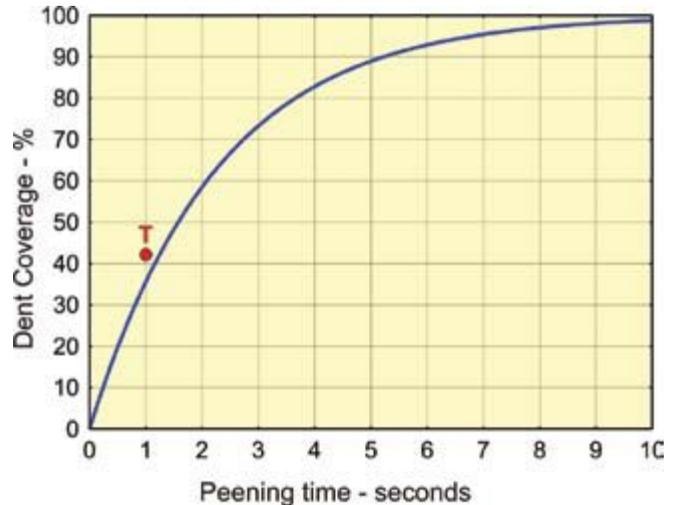

Fig.3. Theoretical average dent coverage curve for dents of 1 mm radius generated at a rate of 14 per 100 mm2 per second.
As an example, consider 14 dents per second (on average) being produced within a square 10 mm by 10 mm, with each circular dent having a radius of 1 mm. Therefore  $r^2$  is 1 mm2, **R** is 0.14 per mm2 per second and **t** is in seconds. The units in equation (1) cancel each other out. The product,  $.r^2.R$ , is the “coverage rate factor.” For this example,  $.r^2.R$  is 0.44. Fig.3 uses 0.44 as this factor. Therefore, after 1 second, an area of 100 mm2 will have received, on average, 14 dents. Equation (1) then predicts an average coverage of 36%.
The theoretical curve, shown as fig.3, has exactly the same shape as the example given in SAE J2277. It is important to note that these curves are only accurate for average dent coverage. This point is illustrated in fig.4 which comprises 14 identical dents of precisely 1 mm radius – equivalent to peening for 1 second. These dents have been placed randomly within a square 10 mm by 10 mm – their centers having been chosen using computer-generated random numbers. For the example shown in fig.4 the measured dent coverage (within the yellowed square) is 42%, shown as “T” on the graph, (measured using several techniques which all gave the same value). Equation (1), however, predicted that the average dent coverage would be 36%. The difference between the measured 42% and the predicted 36% is due to statistical variation. The value of 42% has been included in fig.3 to emphasize statistical deviation. We should, therefore, note that there is a difference
Coverage curves of the type shown in fig.3 (and in SAE J2277) are very useful for predicting and controlling average dent coverage. Optimization of dent coverage requires, however, that we consider both the coverage achieved and the amount of peening needed to achieve that coverage.
from 1 to 9, *r* equals 1 mm and *R* is equal to 0.14 dent per mm2 per second (as for fig. 3).